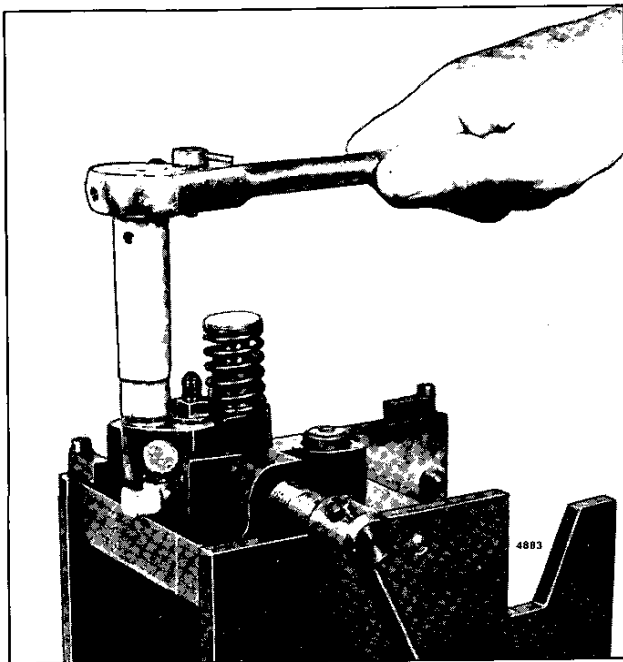

Fig. 28 – Installing Filter Cap
3. Place a new gasket on each filter cap. Lubricate the threads and install the filter caps (Fig. 28). Using a 9/16" deep socket and a torque wrench tighten the filter caps as follows: